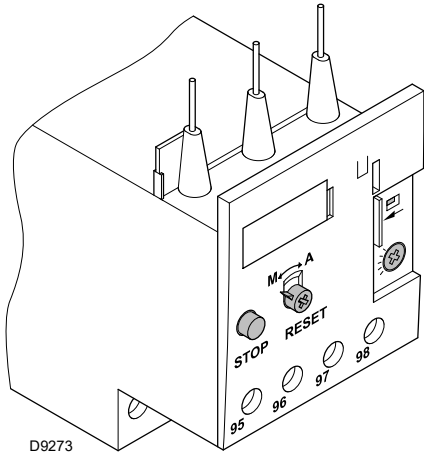

Fig. 27
The electro-mechanical overload relay (Fig. 27) is used to avoid damage to the motor owing to a strong increase in absorption or the lack of a phase.
- To reset, in the case of an intervention of the overload relay, press the button **"RESET"** (Fig. 27).
- The button **"STOP"** (Fig. 27) opens the NC (95-96) contact and stops the motor.